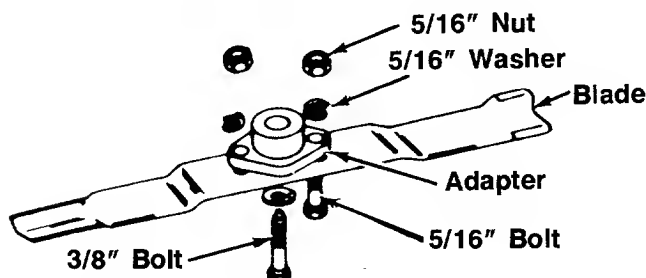

FIGURE 30.
1. Remove the large bolt and lock washer which holds the blade and adapter to the blade spindle. See figure 30.
3. If the blade or blade adapter needs replacing, remove the two small bolts, lock washers and nuts which hold the blade to the adapter. See figure 30.